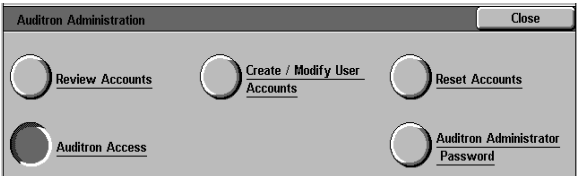

Figure 39: Auditron Access button
- 1 From the Auditron Administration screen, touch the **Auditron Access** button, Figure 39.